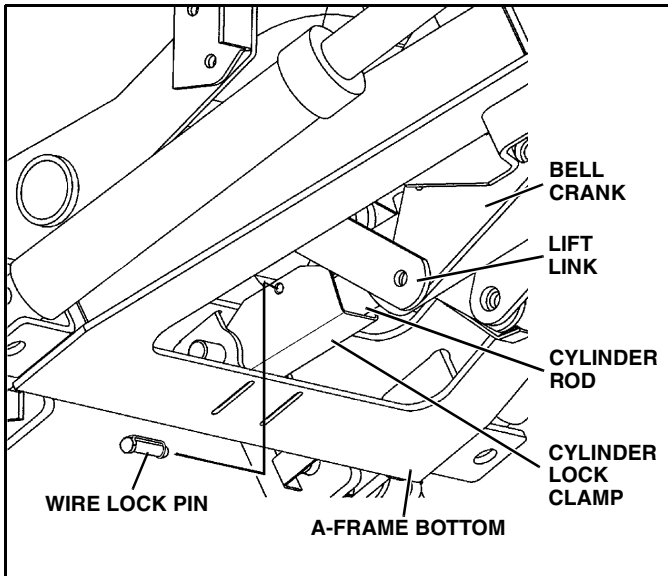

Figure 1-23
5. Position the cylinder lock clamp around the exposed (chrome) portion of the lift cylinder with the open side of the cylinder lock up. Install the pin. (See Figure 1-23).